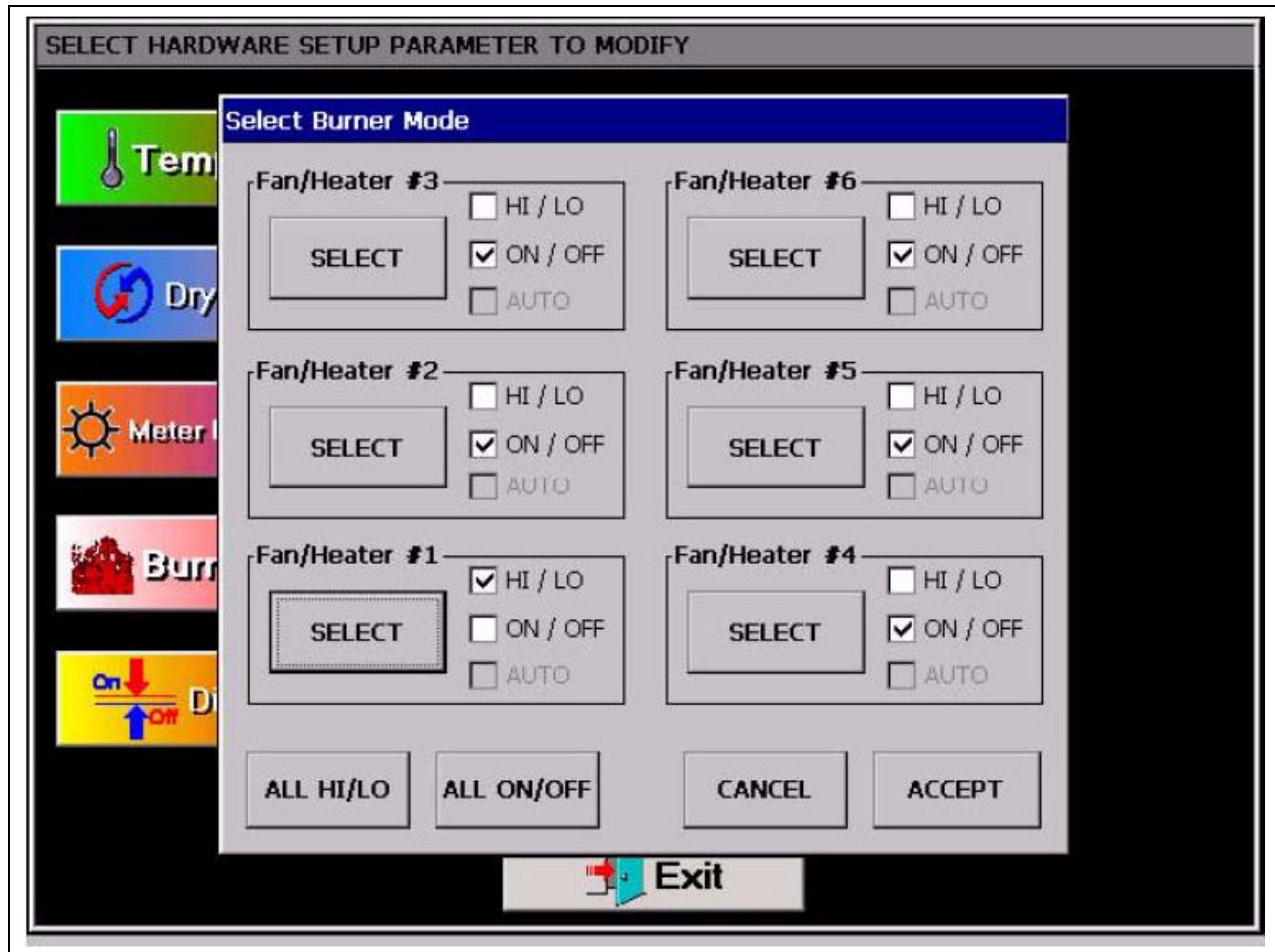

Figure 6H
7.  burner mode should be ALL HIGH/LOW. (*See Figure 6H.*)